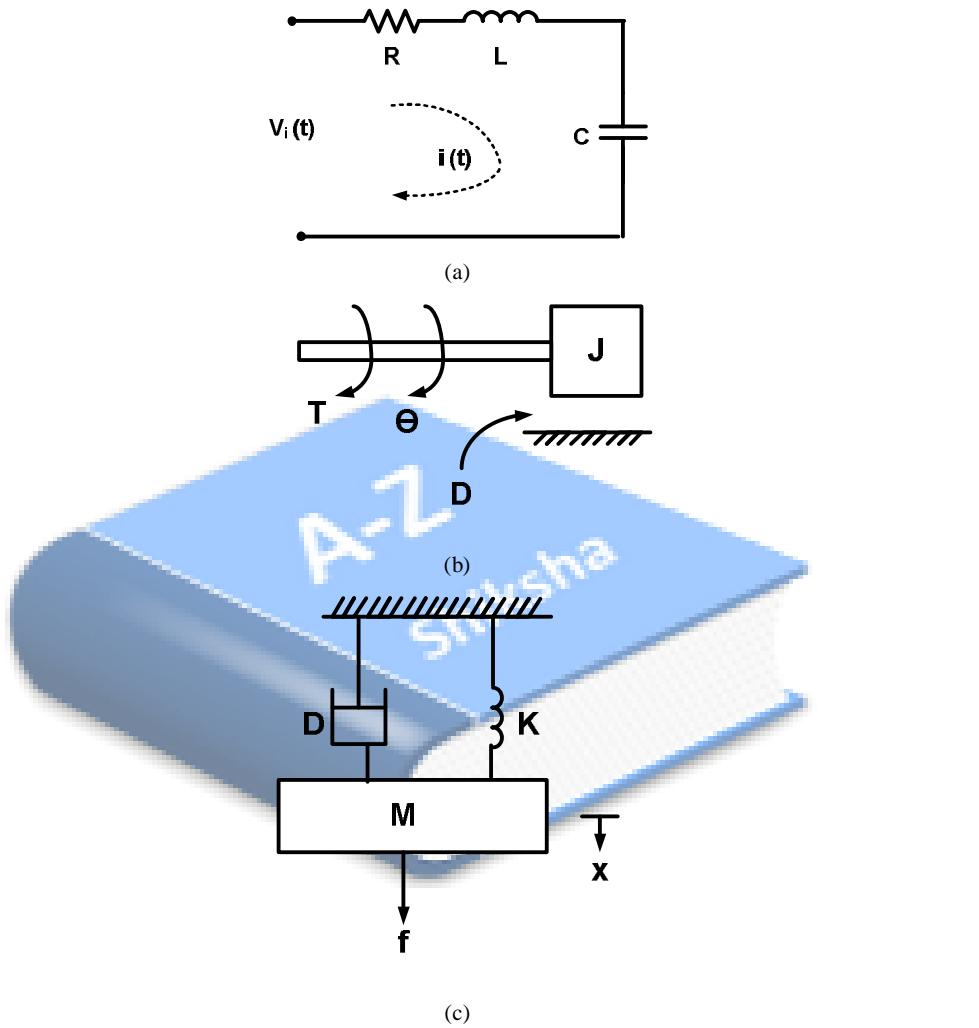

Fig.4.12. (a) a voltage-source electrical system,(b) a translational mechanical system and (c) a rotational control system
**4.3. Analogous system:** Fig.4.12 shows a translational mechanical system, a rotational control system and a voltage-source electrical system.
From Fig4.12 (a), (b) and (c), we have